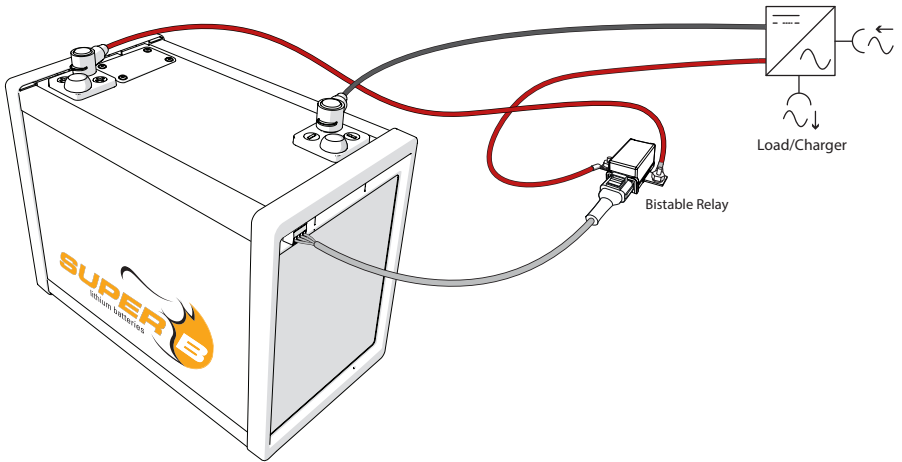

Figure 5. Connect a bistable relay as an external disconnect device
1. When using a bistable relay connect it to Con1 output as displayed in figure 5. The Con1 output controls both the ON coil and the OFF coil of the bistable relay. The output of Con1 can be found in table 8.